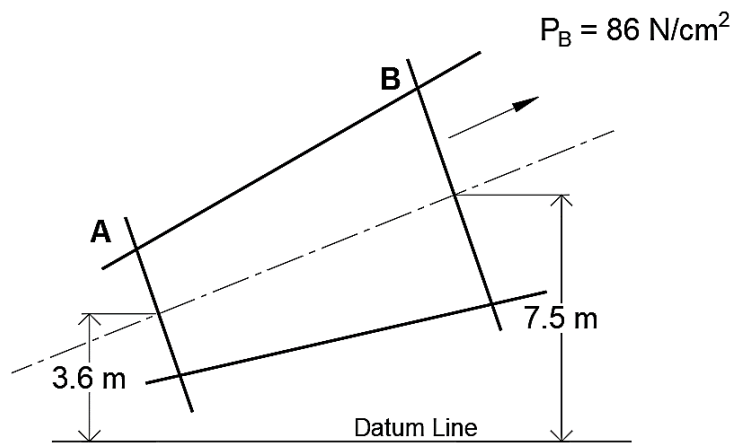

Figure 7: Section of pipe
- (b). The water is flowing through a tapered pipe of diameters 15 cm and 25 cm at point A and Point B as shown in **Figure 7**. The rate of water flow through the pipe is 35 L/s. At Point A is 3.6 m above datum and at Point B is 7.5 m above datum. If the pressure at Point B is 86 N/cm², determine the pressure at Point A.